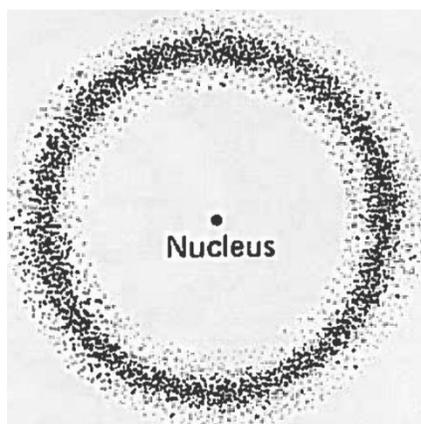

Figure 1.3: Electron Cloud
- 1-28 If it were possible to see the electrons around the nucleus of an atom, you would see a sort of cloud in the shape of a hollow sphere. The drawing in Figure 1.3 below is a rough idea of how an atom of oxygen might look. If you could look very closely at the electron cloud in a real atom, you might see a few layers within the cloud. The 16 electrons of an oxygen atom exist within this cloud, but not as compact objects moving on simple paths. You would *not* see individual electrons moving like planets in orbit around a sun.